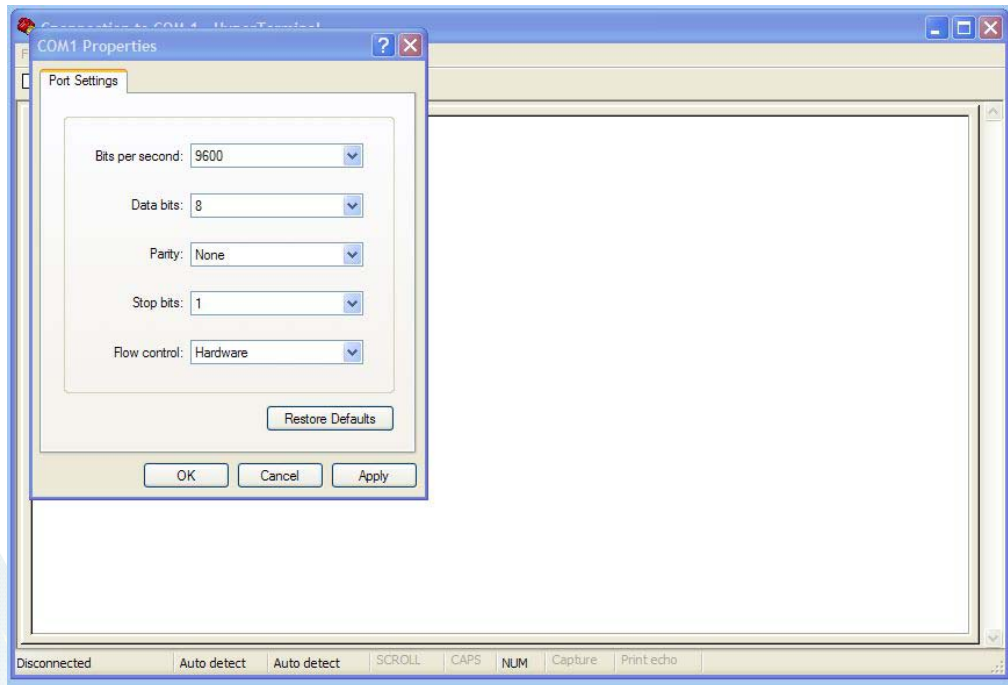

Figure 5 Set Baud Rate to 9600 and Leave Other Data As Is
13. Select the serial communications port being used on the PC using the drop down menu box. Typically, this is COM 1. Select the "OK" button. The "Connect To" dialog box will close and the "COM1 Properties" dialog box will open (See Figure 5 Set Baud Rate to 9600 and Leave Other Data As Is)